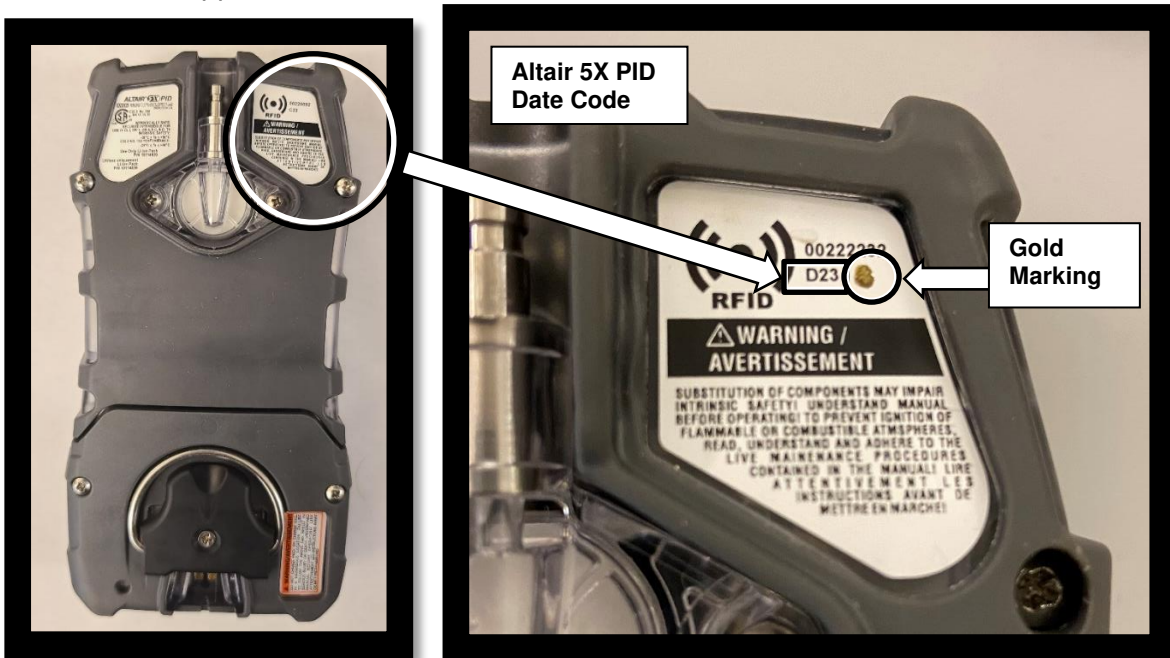

Figure 2 – Altair 5X PID Date Code Identification
2. To find the date code for the Altair 5X PID, reference the date code on the back of the unit. (Figure 2)
- a. If your Altair device has a gold marking as shown in Figure 2, the product is not affected, and no action is needed.